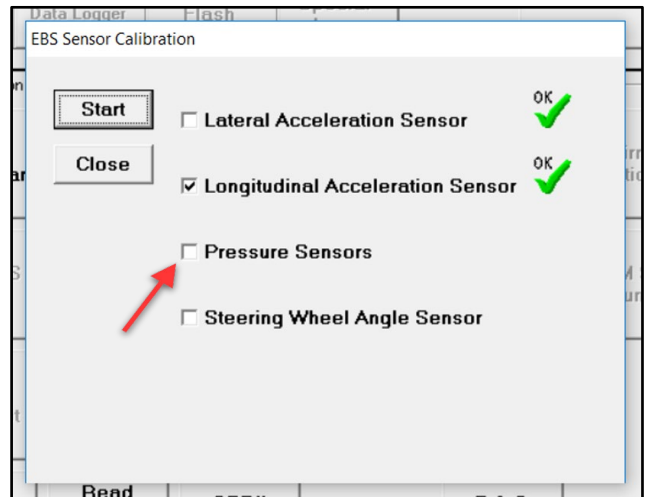

Figure 16
25. Select "Pressure Sensors" (refer to Figure 16).